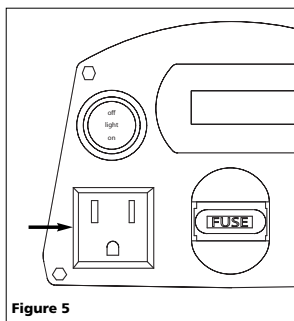

Figure 5
3. Plug AC cord from appliance into AC outlet on front panel (see Figure 5).